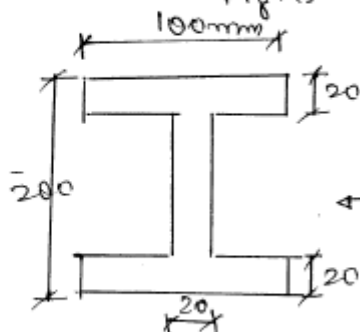

Fig. 10 Q.5(a)
- Q.5 (a)** Find the shear stress at the junction of the flange and web of an I section shown in Fig.10, if it is subjected to a Shear Force of 20 kN. **07**